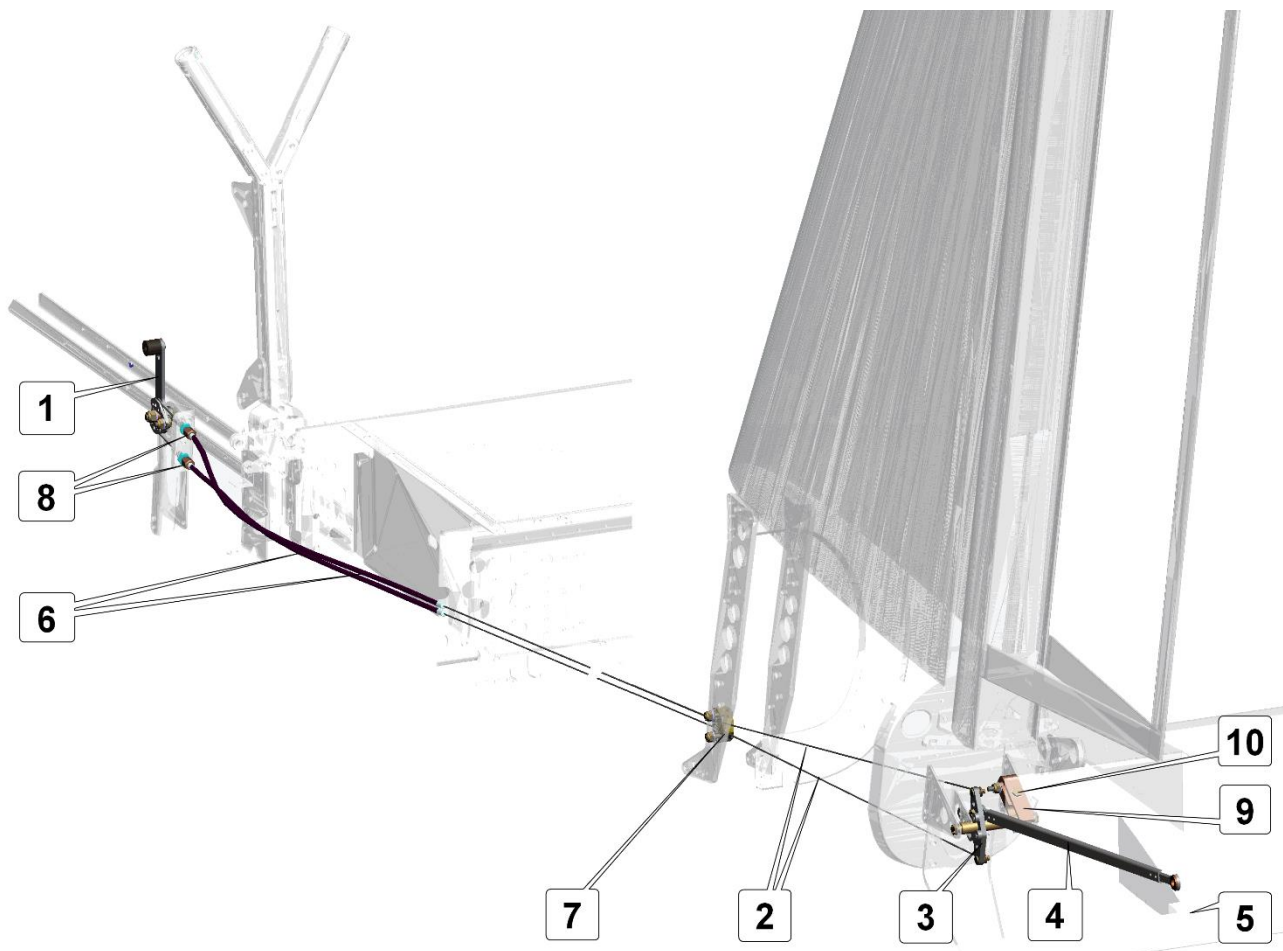

Fig. 5 AMHT antiservo/trim tab control system
The AMHT antiservo/trim tab control system (**Fig. 5**) is combined, it consists of a lever (1), two Ø1.5 mm (1/16 in) cables (2), a rocker (3), a friction clamp (9) and a rod (4).